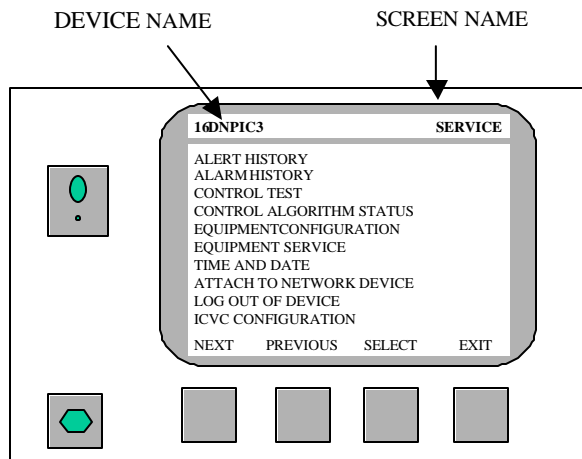

Fig. 3-4 ICVC SERVICE SCREEN
- When not in the default screen, the upper right-hand corner of the ICVC always displays the name of the screen that you have entered. (Fig.3-4)